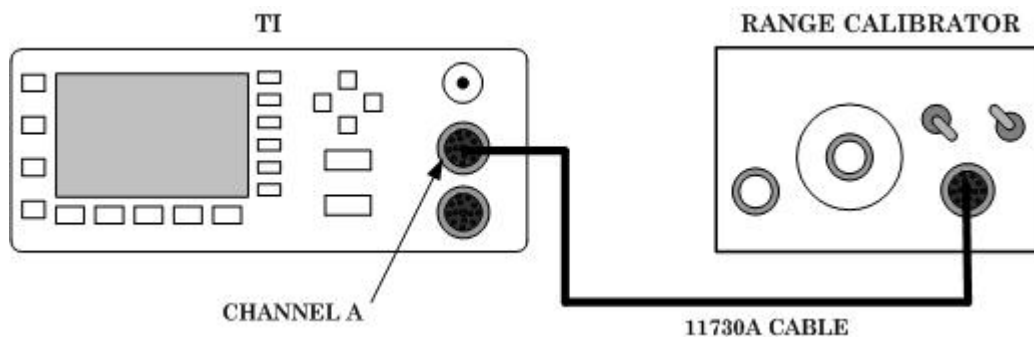

Figure 1. Zero test equipment connection.
- (1) Set TI **POWER** and range calibrator **LINE** switches to off position.
- (2) Connect equipment as shown in figure 1.